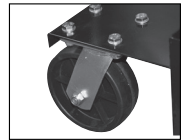

Figure 1
1. Assemble M12 flat washer [15], nut [16], and hex head screw [14] to wheels [13] using 19mm socket and wrench (Figure 1).